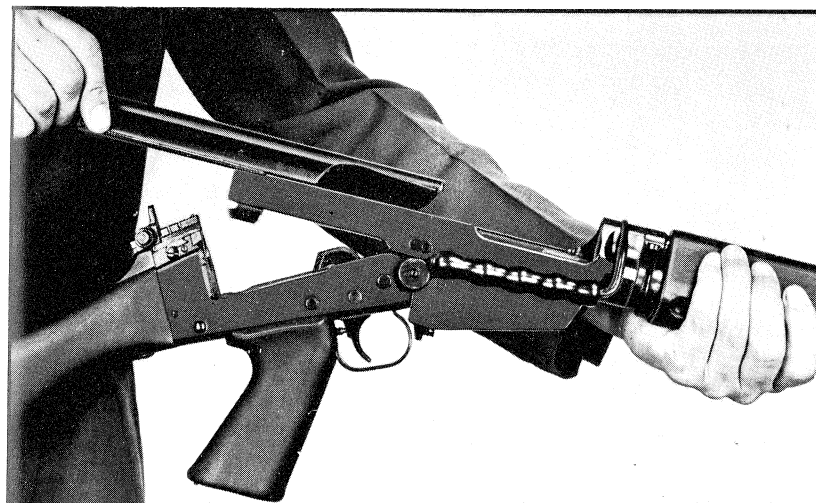

Fig.37
- b) Remove the cover from the receiver by pulling it to the rear (fig. 37).